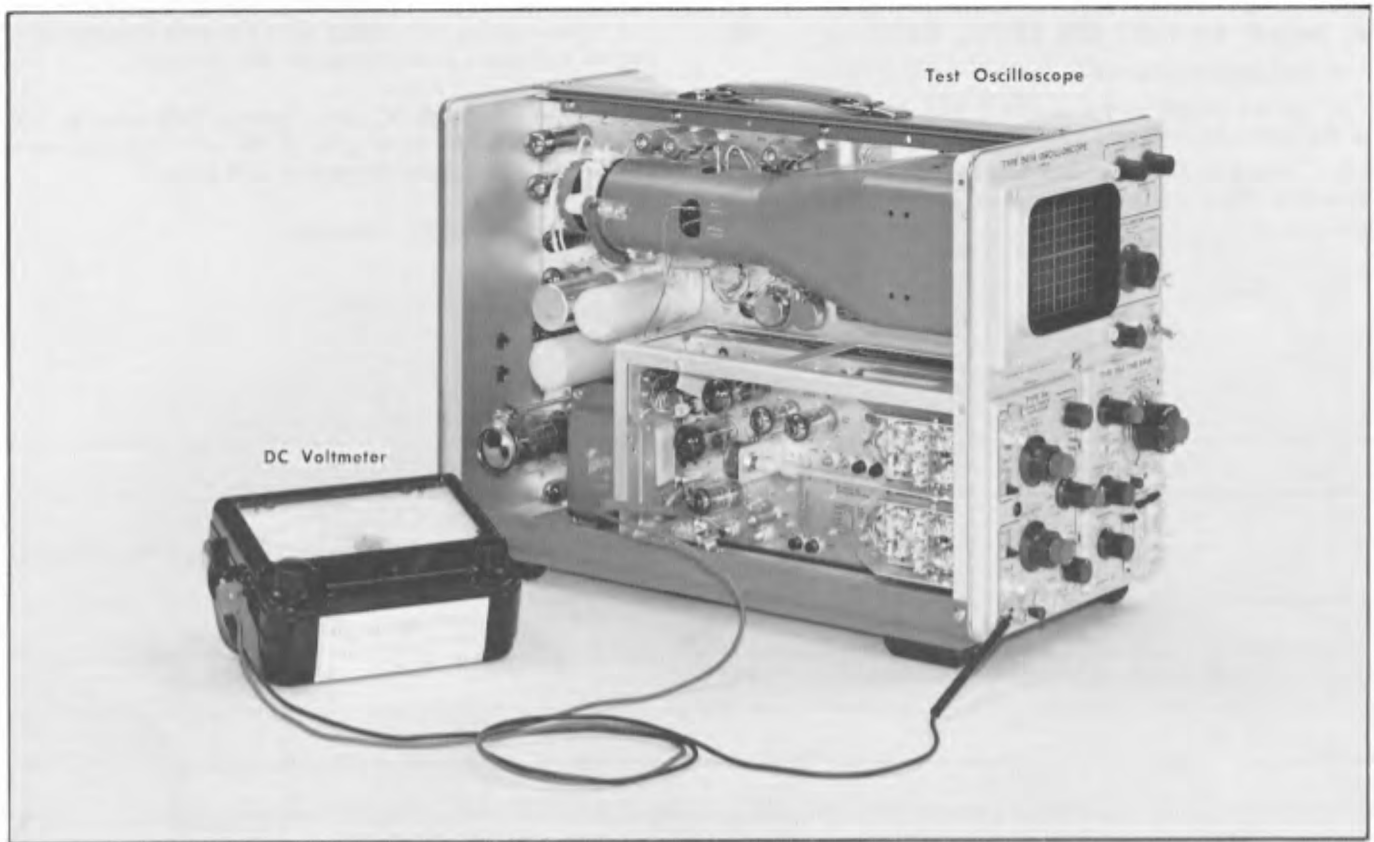

Fig. 7-7. Test equipment setup for step 6.
- a. Test equipment setup is shown in Fig. 7-7.